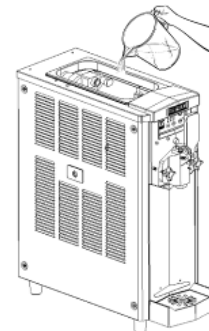

Fig. 71
- Pour more or less 2 litres of mix into the top tank (Fig. 71) and wait for it to flow into the freezing cylinder.